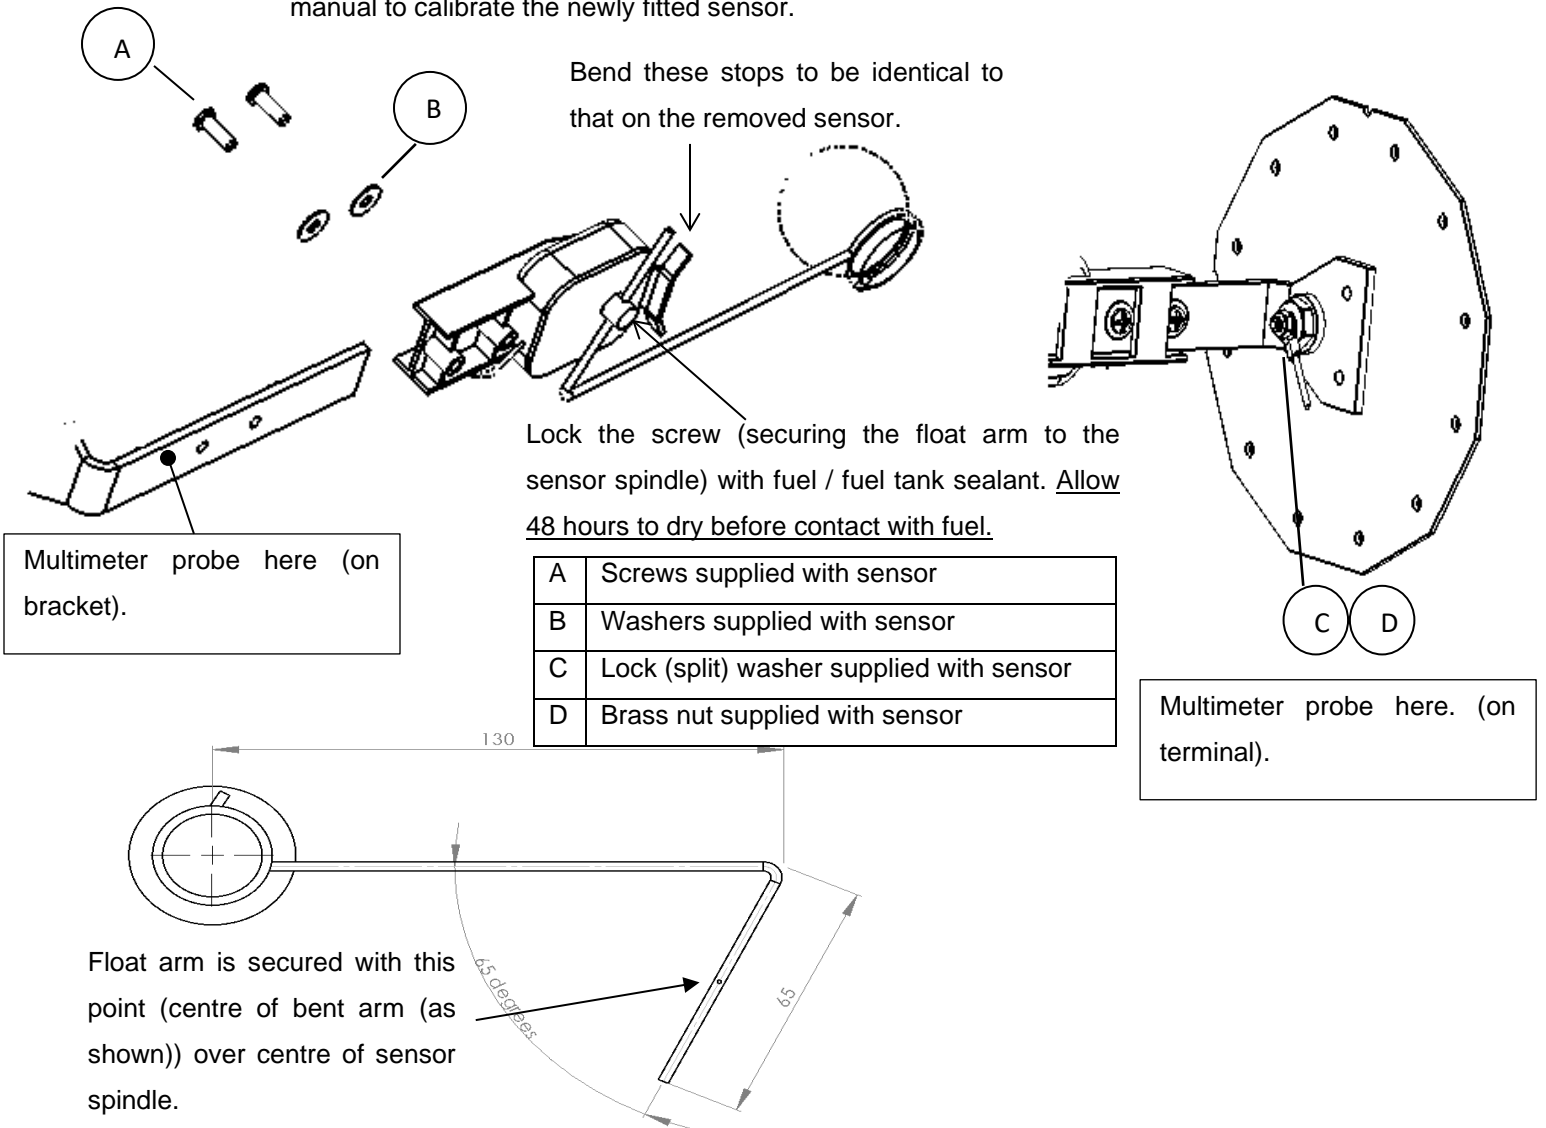

Figure 65: Fuel level sender assembly sensor replacement.
- Observe correct washer placement (refer to Figure 65).
- The sensor is fitted to the bracket with the spindle pointing away (in opposite direction) from the 90 degree bend / plate / part of the bracket attached to the hexagonal tank cover / sender assembly plate, i.e. spindle will face to rear when level sender assembly is installed in fuel tank. See Figure 65.
- (a) The float arm must be fitted to the new sensor with the same point (centre of bent part of arm) on the arm (as was over the centre of the spindle of the removed sensor) over the centre of the sensor spindle (refer to Figure 65). Use the marks made (during disassembly) on the float arm to assist in positioning the float arm before securing it to the sensor spindle.
- (b) Bend the float arm stops (refer to Figure 65) on the replacement sensor to be identical to that on the sensor which was removed.
- Wind the signal wire (1) tightly and securely around the bracket (2) and sensor (3) as shown below, without damaging or distorting / stretching it unnecessarily. Route the signal wire as shown and tie wrap (4) the bundle as shown. Cut the excess tie wrap strap off.
2. Use a multimeter set to measure resistance (set to the 200 Ω range setting, if available or higher) to measure the range of the sensor, with the float arm first flush against one stop and then rotated to lie flush against the other stop (refer to Figure 65). The range measured should be between $> 0 \Omega$ and $< 200 \Omega$ (approximately 8 Ω to 192 Ω). Measuring an open circuit with the float arm flush against any one of the stops indicates that the sensor wiper has moved off the sensor board pick-up and indicates that the stops are not correctly bent. Bend the stops to exactly match those of the sensor previously removed!